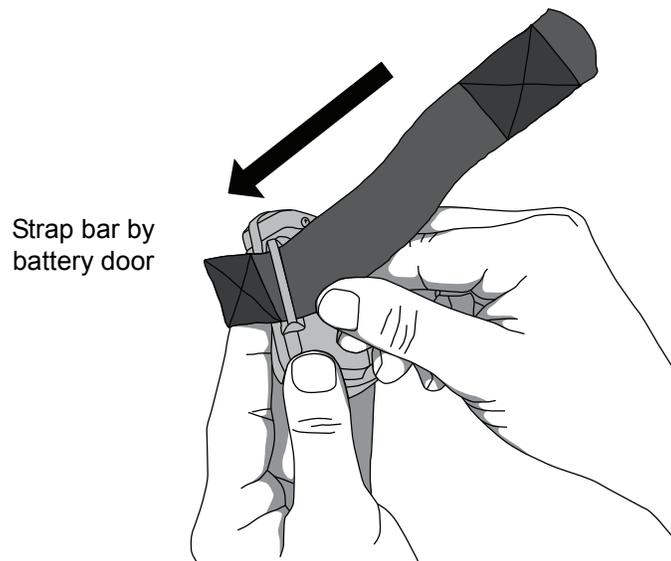

Figure 9: Thread Adjustable Wrist Strap
4. Thread square end fastener through the strap bar by the battery door. Start from the back of the device and thread it towards the front of the device (figure 9).